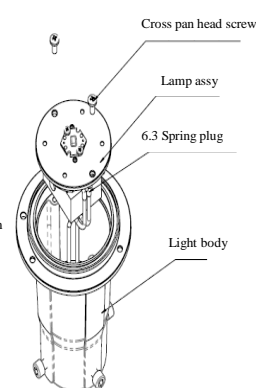

Figure 5-8
3. Make the lighting fixture lamp upward and take out 2 cross pan head screws M4 with a cross screwdriver after unscrewing them (Figure 5-8).